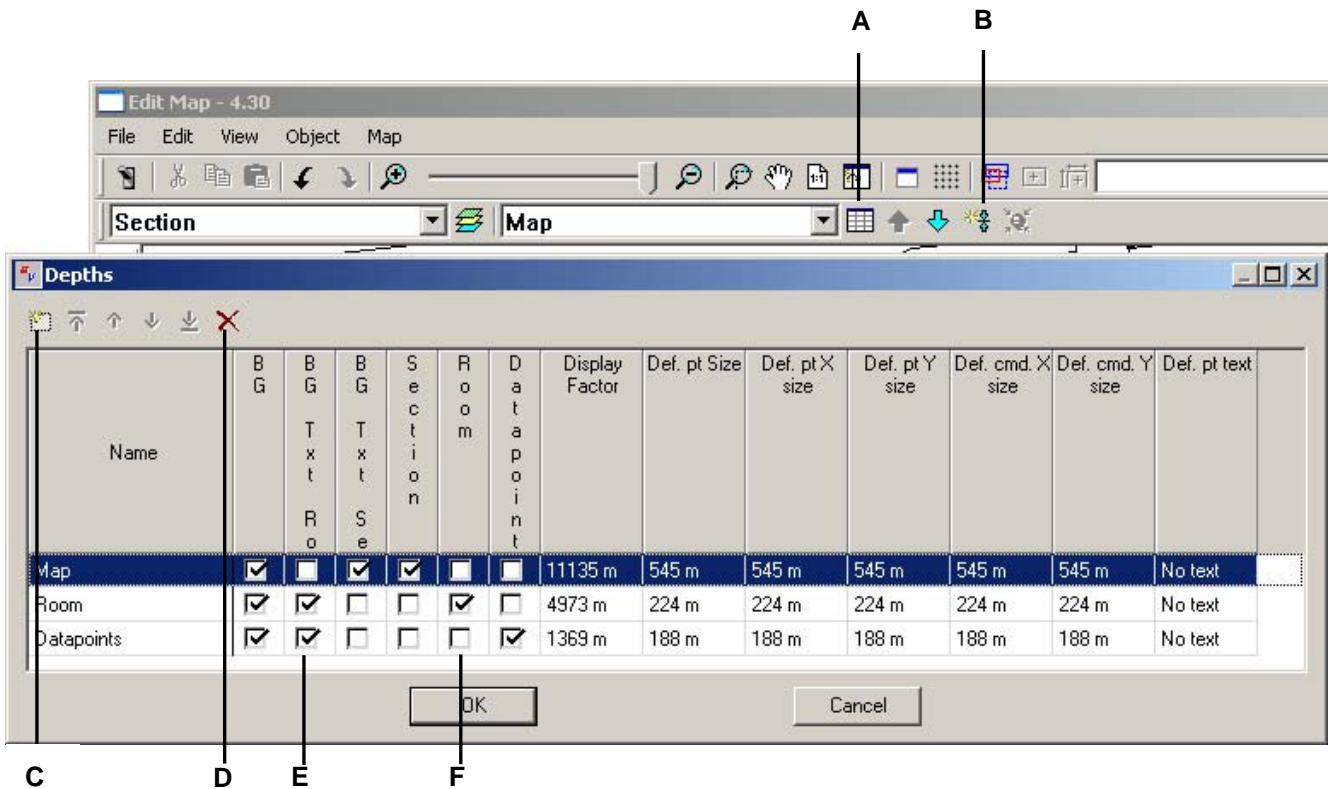

Fig. 7 Creating a new depth
**Note:** You have one button to create a new depth, and another to open the depth window where you can also add (as well as delete) a depth (see Fig. 7). Try to use the first command because it allows you to automatically set the zoom factor. The second command requires you to define the zoom factor as a numeric range (in pixel or metric unit).